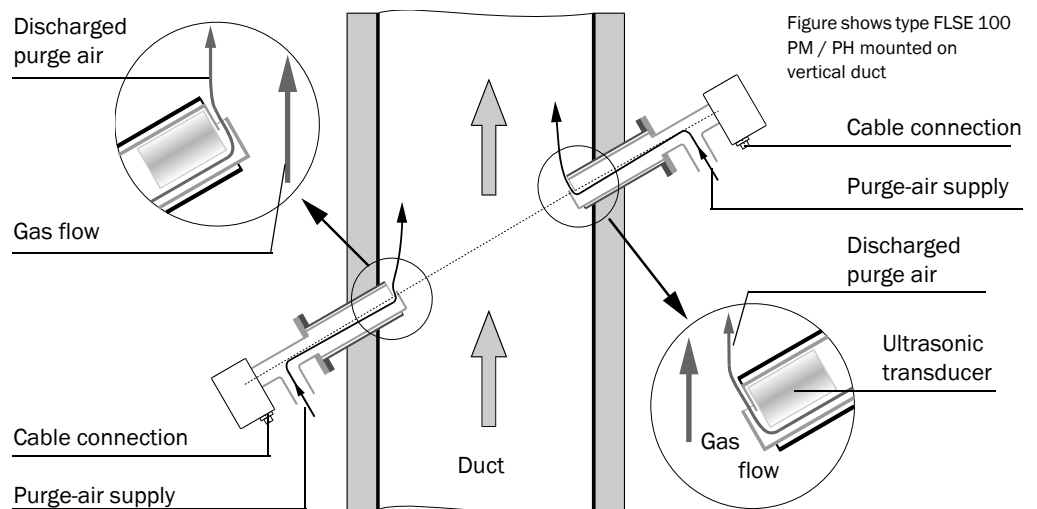

Fig. 3.22: Arrangement of cable connection and purge-air supply for internally cooled and purged sender/receiver units (figure shows type FLSE100-PM/PH)
- ▶ Make sure, that the purge-air flows in and out from below (see **Fig. 3.22**).
- ▶ The purge-air must be supplied from below; the purge air must flow out in the direction of the gas flow (see Fig. 3.22).
Plug these modules onto the top hat rail in the MCU (see **Fig. 3.22**) and connect them with the cable with plug to the corresponding connector on the processor board (see **Fig. 2.21**).